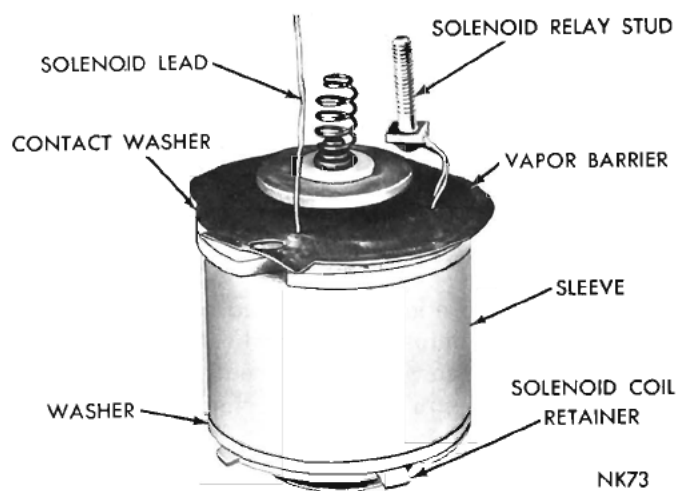
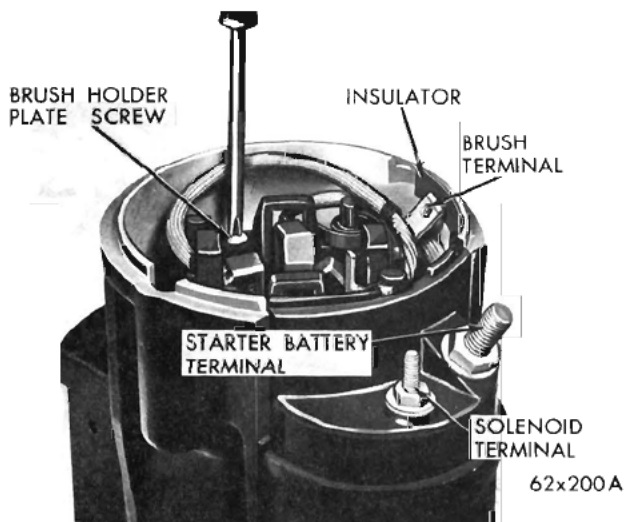

Fig. 6—Solenoid Assembly Removed
Fig. 5—Removing or Installing Brush Holder Plate Screw
(8) Remove the screw attaching the brush holder plate to the starter gear housing (Fig. 5).
(9) Remove the nut ( $1\frac{1}{32}$ " wrench), steel washer and insulating washer from the solenoid terminal.
(10) Straighten the solenoid wire and remove the brush holder plate with the brushes as an assembly.
(11) Remove the solenoid assembly from the gear housing well (Fig. 6).
(12) Remove the nut, steel washer and the sealing washer from the starter battery terminal.